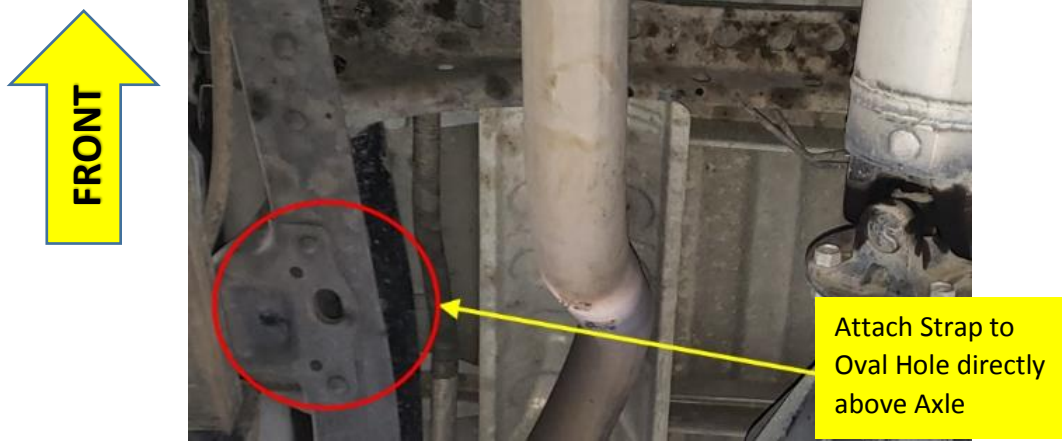

Figure 18 – Frame Mounting Hole for Air Tank Torque Strap
- 10.5.2. Adjust positioning of first bolt as needed to use hardware #1, #2, #3, & #4 to attach other end of strap to frame rail; strap attaches below frame and has a washer above frame, as shown in Figure 18 & 19 below.